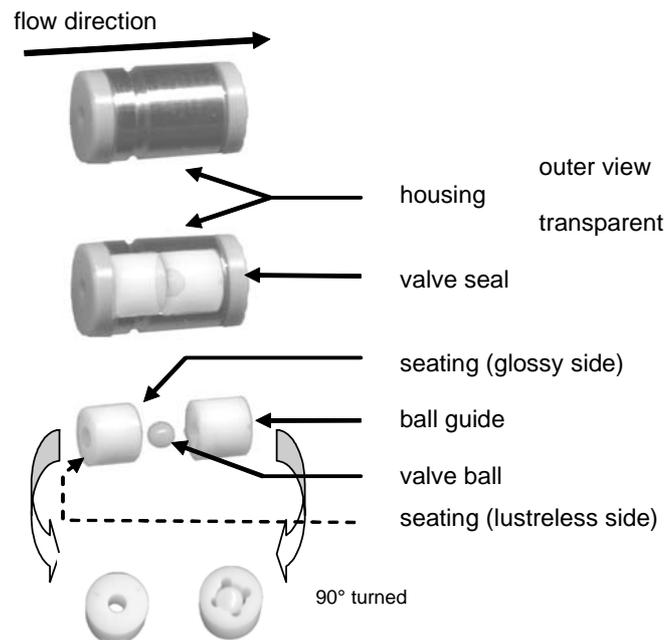

Fig. 28 Check valve, single parts
5. Assemble the check valves in reverse order. Be sure to that the glossy side of the seating is facing the valve ball, see Fig. 28 and assemble the check valve properly. Wrong assembly can lead to damage and leakage of the check valve.